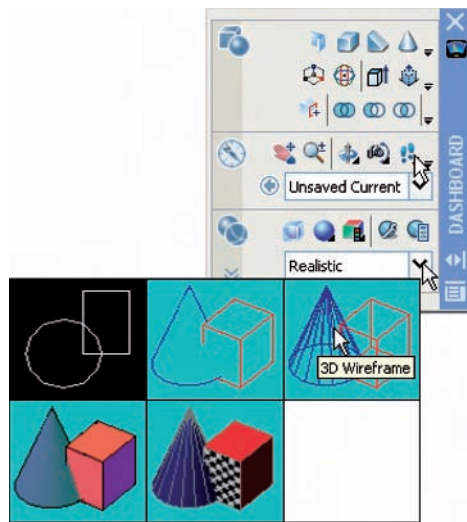

Fig. 16.2 Selecting **3D Wireframe** from **Visual Styles**
3. *Click* the arrow to the right of the **Visual Styles** field in the **Visual Styles control panel** and select **3D Wireframe** from the icons which appear in a popup (Fig. 16.2).